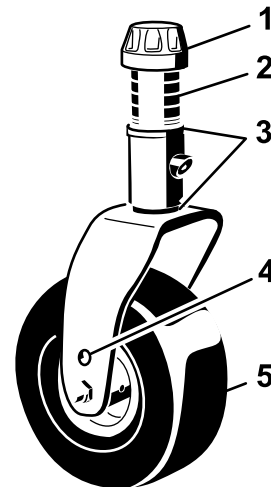
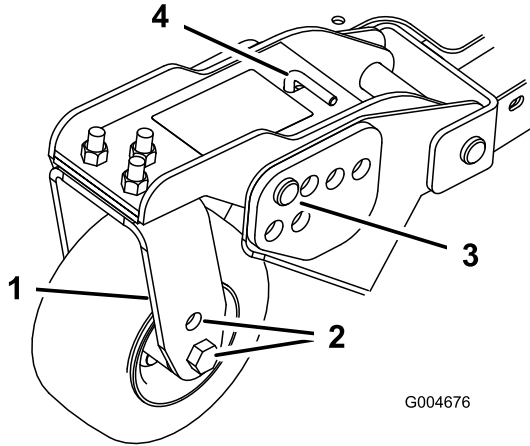
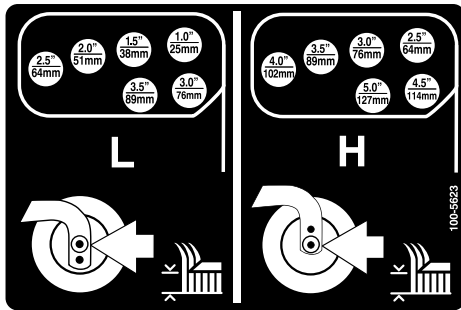

Figure 21
Figure 23
Figure 24
1. Position the caster-wheel axles in the same holes in all of the caster forks (Figure 21 and Figure 23).
2. Remove the tensioning cap from the spindle shaft and slide the spindle out of the caster arm (Figure 21).
5. Remove the hairpin cotter and clevis pins from the caster-pivot arms (Figure 23).
6. Rotate the tension rod to raise or lower the pivot arm until the holes are aligned with the selected height-of-cut bracket holes in the mower-deck frame (Figure 23 and Figure 24).